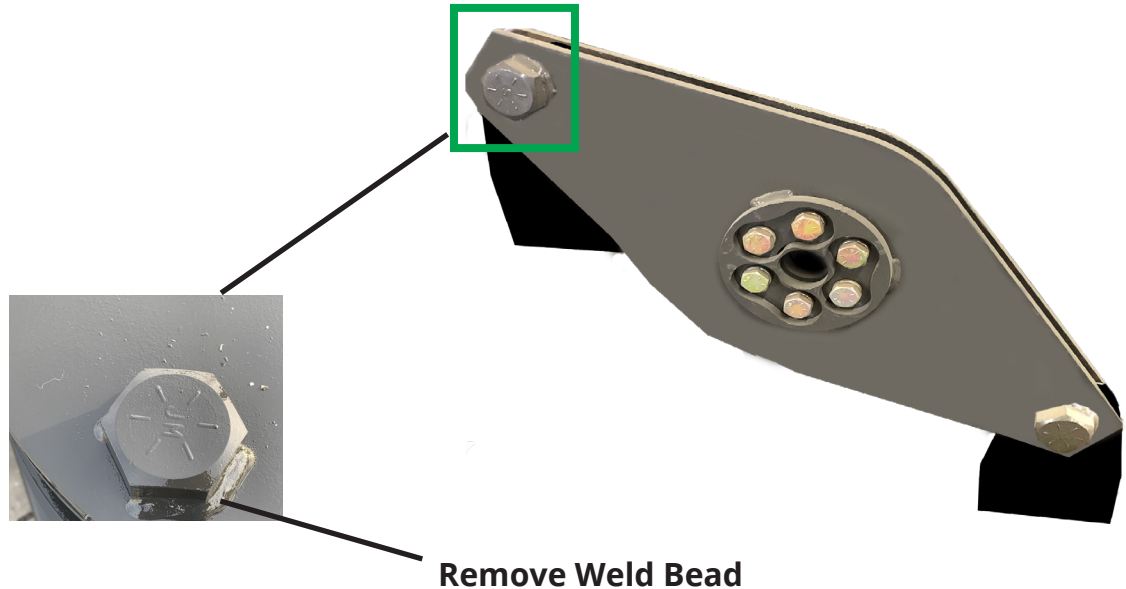

Figure 4.6a - Blade Holder Bolt Weld Bead Removal
2. Use a cutting torch or a grinder with a cut off wheel to remove the weld bead around the bolt head. (see Figure 4.6a on next page).